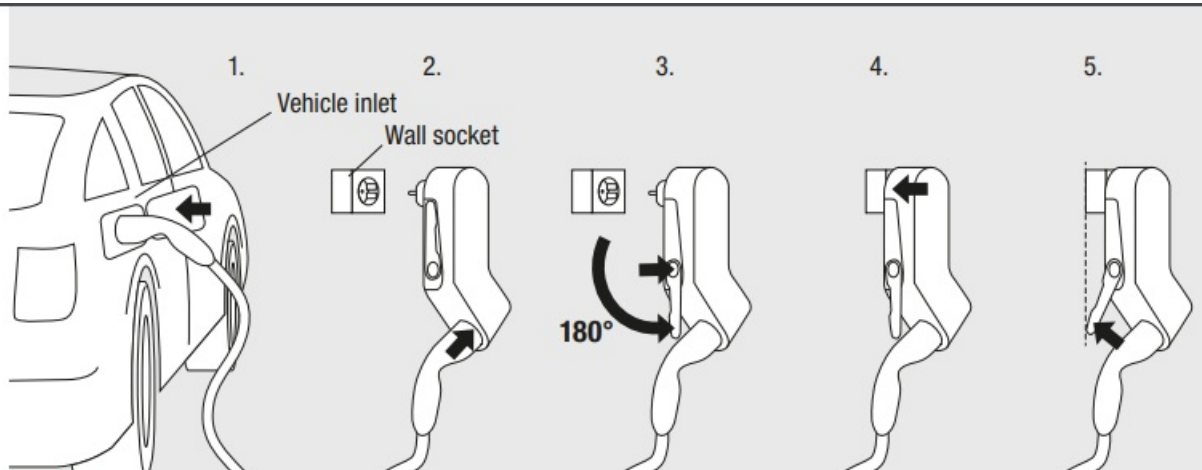

Fig. 2: Charging sequence
- Only operate the Mobility Dock vertically suspended and supported on a wall socket to avoid pulling on the wall socket (see fig. 2). Heavy loads can damage the Mobility Dock and/or the power socket.
- Do not plug the Mobility Dock into the socket until the charging plug is engaged in the type 2 outlet (C). Otherwise the wall socket may be damaged.
The Mobility Dock is a Mode 2 emergency charger for occasional, portable use. Permanent use only in a safe, motionless and vertical position. Operation only on mechanically and electrically suitable, wall-mounted sockets **(see fig. 2, step 5)!** Do not operate the Mobility Dock outside of the technical data.